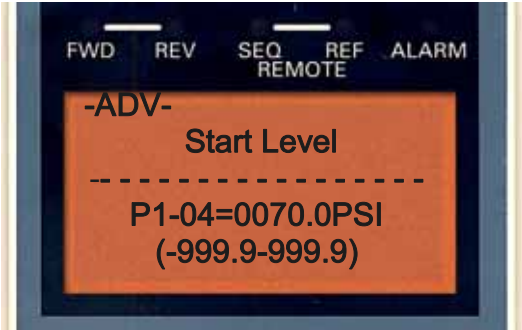

Figure G.6 70 psi
**Figure G.6** shows 70 psi Start level for a 30 psi draw down with a setpoint U1-01 = 100 psi.